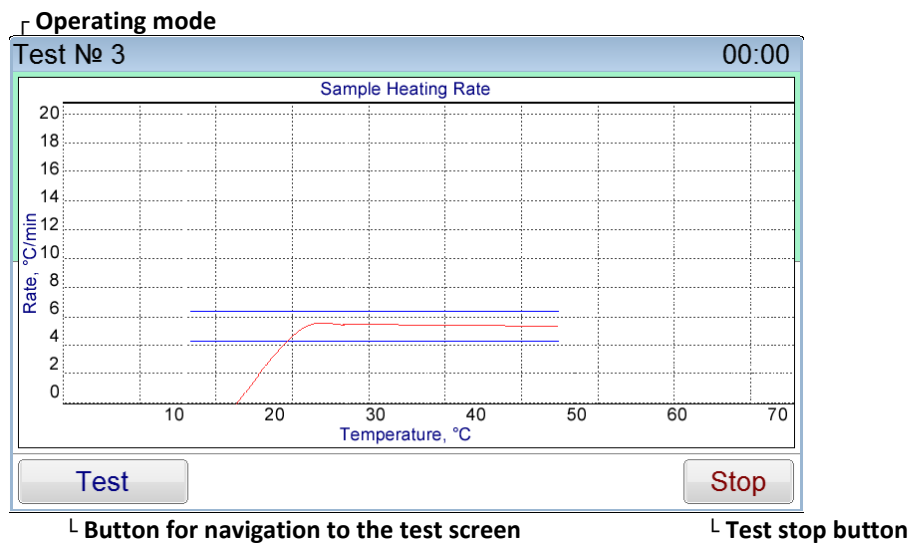

Figure 8 – Test schedule window
4.5.4.3 If “**Graph**” button is pressed in the test mode, the following is displayed (shown in Figure 8)